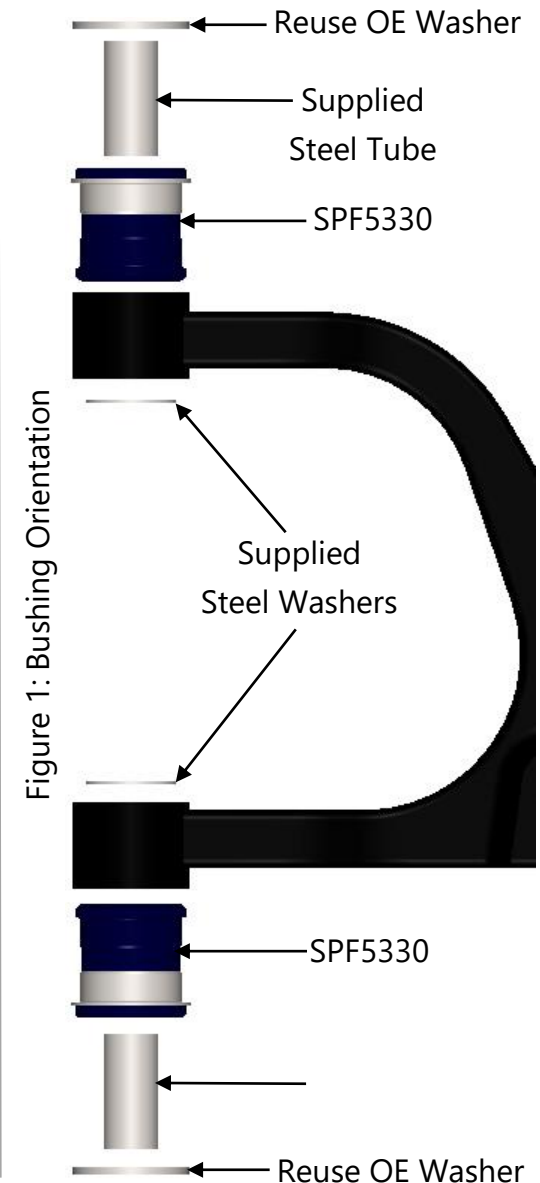

Figure 1: Bushing Orientation
- Push the new bushings into the arms noting orientation as per Figure 1 below;
- Install the arms into the vehicle making sure that the washers supplied are installed on the inside of the arm, as per Figure 1 below;